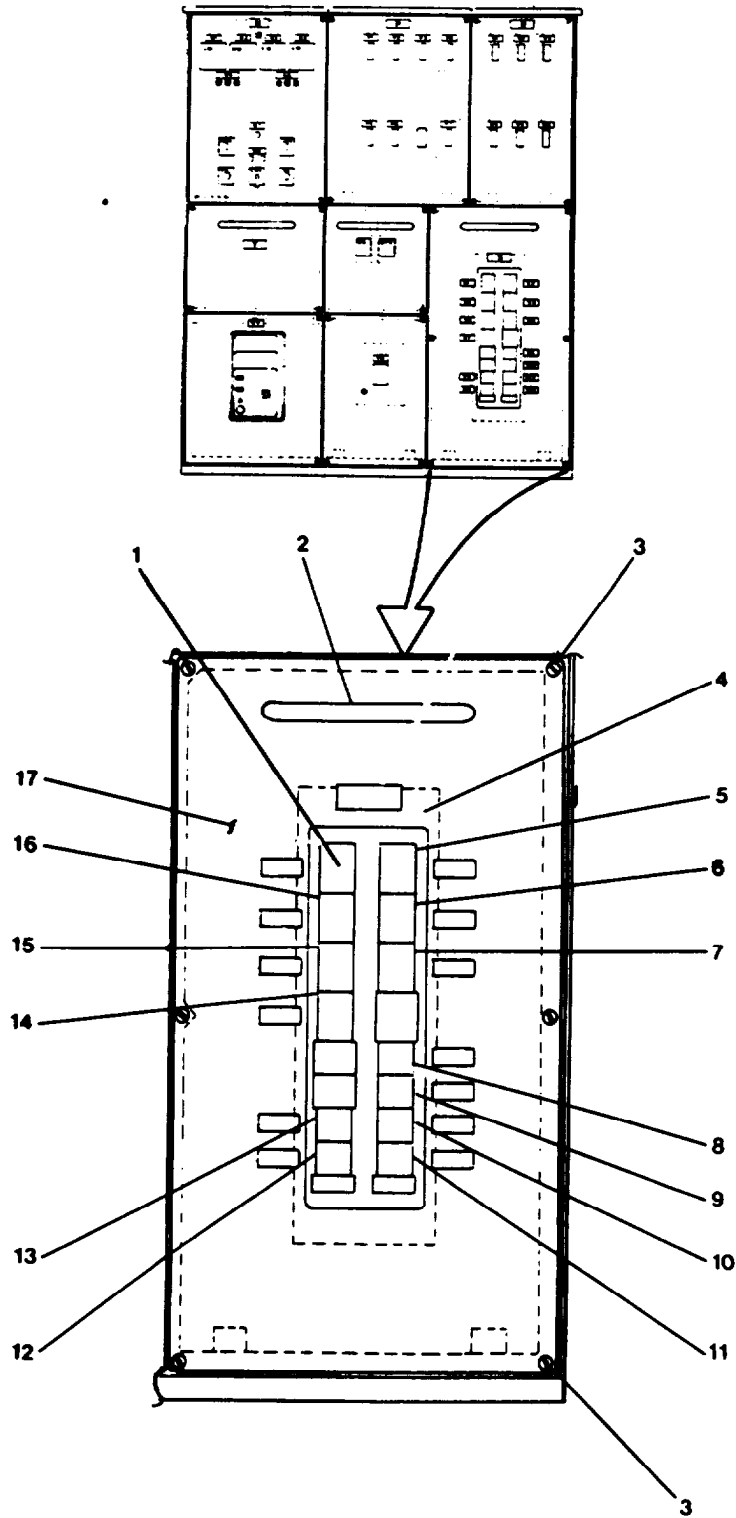

FIGURE 2-225. Emergency Generator Switchboard Bottom Right Panel.
- a. Turn door panel screws (3, FIGURE 2-225) counterclockwise to loosen
- b. Remove door panel (17) using hand rail (2). Store panel door (17) in safe and out-of-way place.
- c. Open circuit breaker panel cover (4).